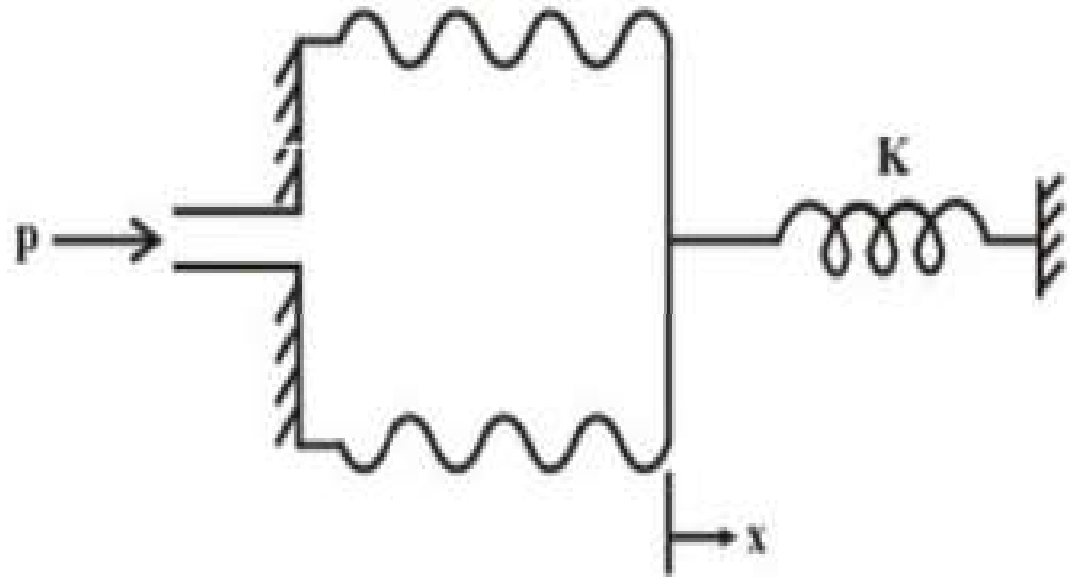

Fig. 3 Bellows
- Bellows (fig. 3) are made with a number of convolutions from a soft material and **one end of it is fixed**, wherein air can go through a port. **The other end of the bellows is free to move.**